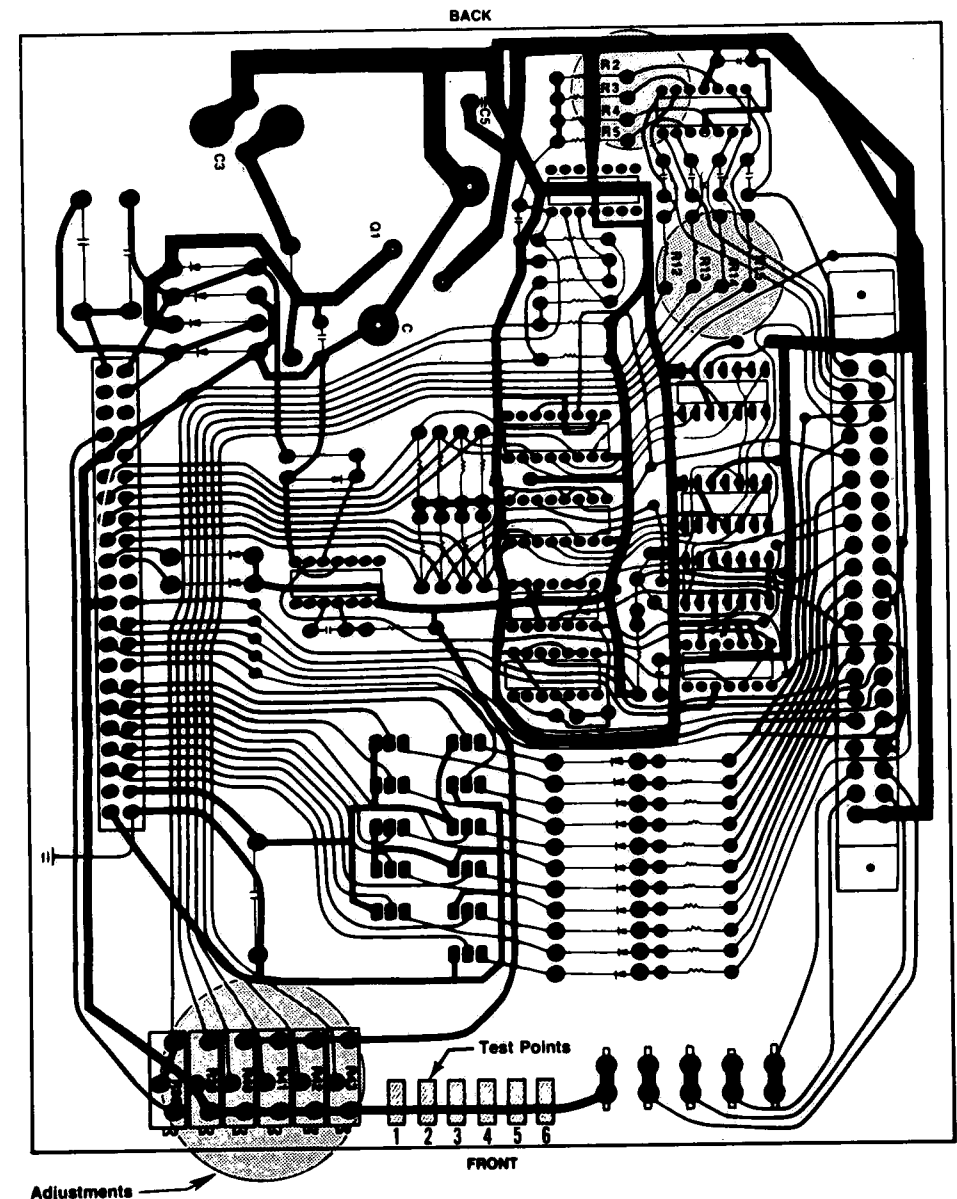

Figure 6-6. LOCATION OF TEST POINTS ON MOTHER BOARD.
1. See Figure 6-6. Turn trimmers (potentiometers) R39, R40, R41, R42, R43 on the Mother Board at least 20 turns counterclockwise.
3. Install the DVM to read the voltage between test points TP2 (meter pos.) and TP1 (meter neg.). (See Fig. 6.6.)